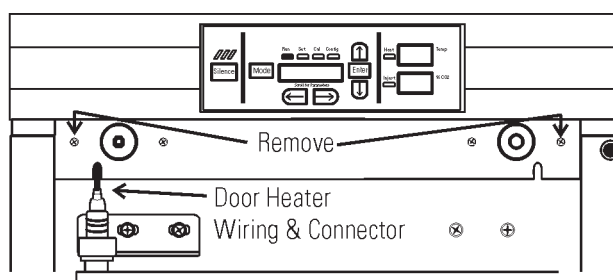

Figure 6-3. Screw Locations
2. Open the exterior cabinet door and remove the two screws shown in Figure 6-3.
6. When wiring is completed, slide the electronics drawer back in being very careful to place the door heater cable back into the provided slot so that the drawer does not pinch the cable. See Figure 6-3.